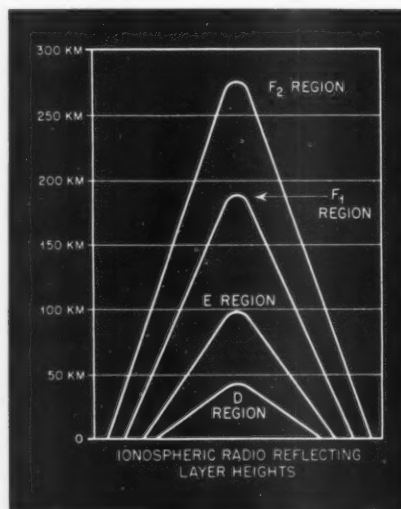

Fig. 3. Ionospheric radio reflecting layer heights
The sky wave (2), however, depends on reflecting layers of ionized gas molecules in the ionosphere and is useful for great distances. These reflecting layers are usually designated by letters. (See Fig. 3).